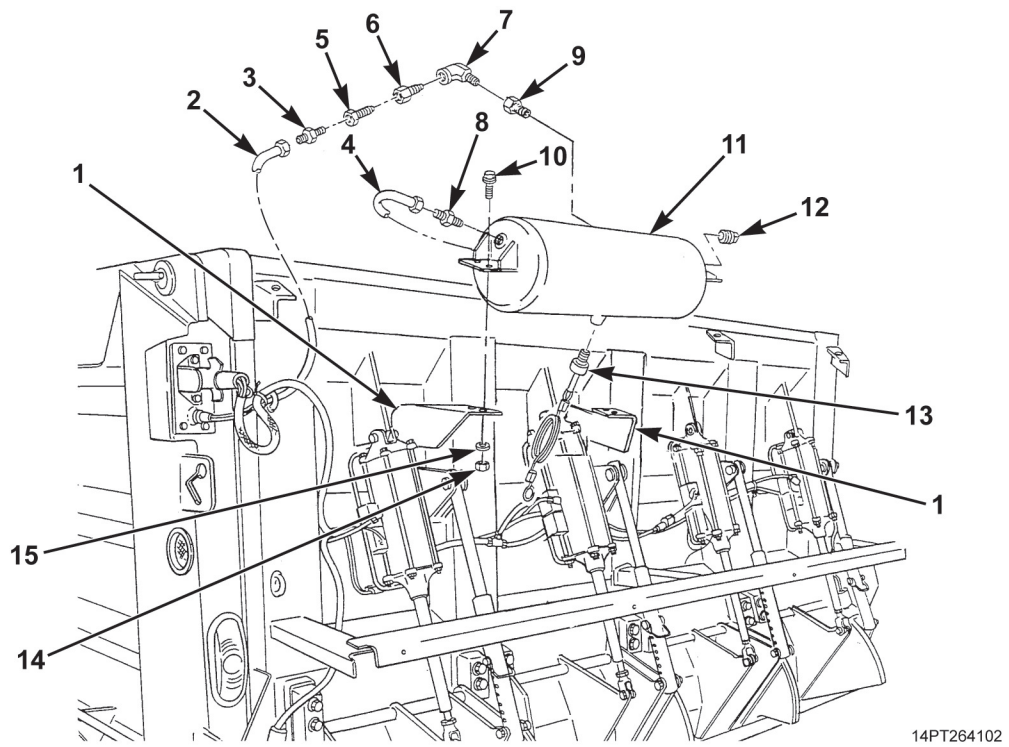

Figure 1. MCS Air Reservoir Replacement.
3. Remove four locknuts (Figure 1, Item 14), washers (Figure 1, Item 15), screws (Figure 1, Item 10), and air reservoir (Figure 1, Item 11) from welded brackets (Figure 1, Item 1). Discard locknuts.
4. Remove adapter (Figure 1, Item 3), bushing (Figure 1, Item 5), check valve (Figure 1, Item 6), elbow (Figure 1, Item 7), and reducer (Figure 1, Item 9) from air reservoir (Figure 1, Item 11).
5. Remove adapter (Figure 1, Item 8) from air reservoir (Figure 1, Item 11).
6. Remove draincock with lanyard (Figure 1, Item 13) and plug (Figure 1, Item 12) from air reservoir (Figure 1, Item 11).
1. Install draincock with lanyard (Figure 1, Item 13) and plug (Figure 1, Item 12) on air reservoir (Figure 1, Item 11).
2. Install adapter (Figure 1, Item 8) on air reservoir (Figure 1, Item 11).
3. Install reducer (Figure 1, Item 9), elbow (Figure 1, Item 7), check valve (Figure 1, Item 6), bushing (Figure 1, Item 5), and adapter (Figure 1, Item 3) on air reservoir (Figure 1, Item 11).
4. Install air reservoir (Figure 1, Item 11) on welded brackets (Figure 1, Item 1) with four screws (Figure 1, Item 10), washers (Figure 1, Item 15), and new locknuts (Figure 1, Item 14).
5. Connect air hose (Figure 1, Item 4) to adapter (Figure 1, Item 8).
6. Connect air supply hose (Figure 1, Item 2) to adapter (Figure 1, Item 3).